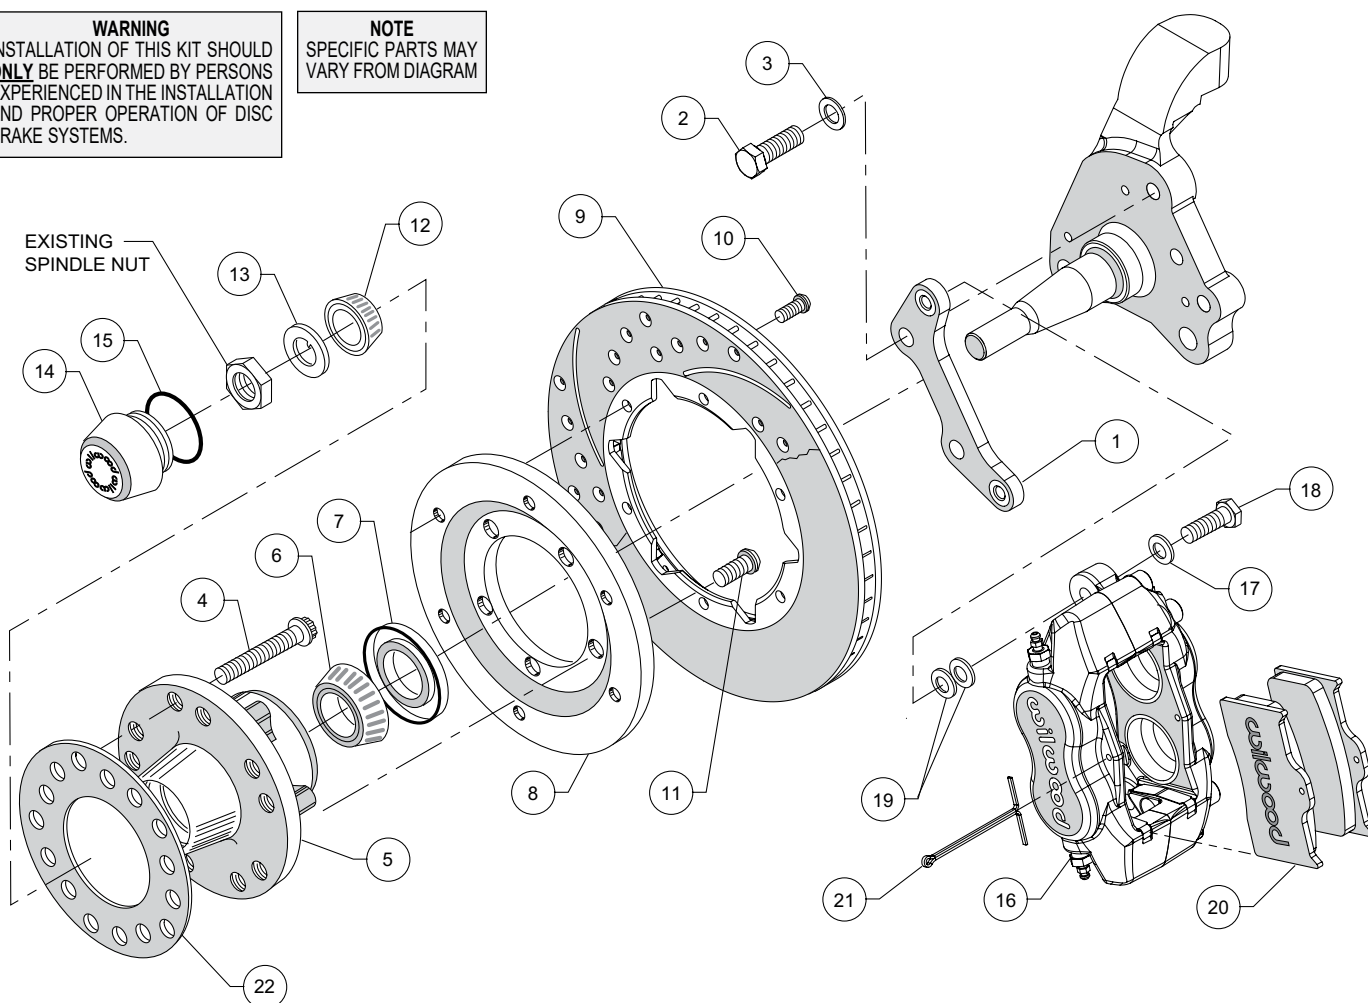
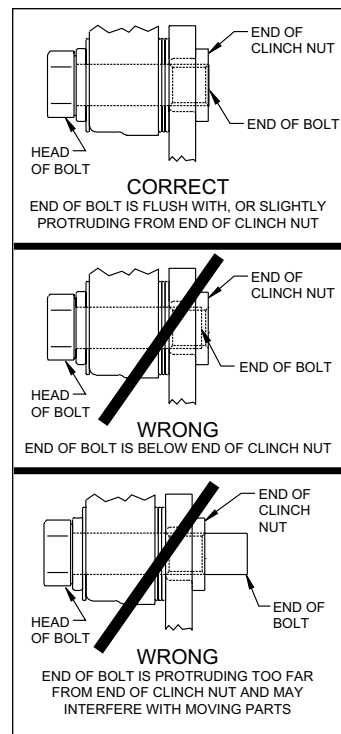

Figure 1. Typical Installation Configuration
Figure 3. Clinch Nut Engagement Diagram
•**NOTE:** Numbers in parenthesis refer to the parts list on the preceding page and Figure 1.
•**CAUTION:** All mounting bolts must fully engage clinch nuts. Be sure to check that all bolts are either flush or protruding through flanged side of clinch nut after shimming, Figure 3.
•Align caliper mounting bracket (1) with the corresponding holes, to the face of the spindle. Attach using bolts (2), and washers (3), as shown in Figure 1 and Photo 1. Temporarily tighten the mounting bolts. Ensure that the flanged heads of the clinch nuts in the bracket are facing outboard, Photo 1. **NOTE:** The bracket must fit squarely against the mounting points on the spindle. Inspect for interference from casting irregularities, machining ridges, burrs, etc. Remove bolts one at a time, apply red *Loctite*® 271 to threads and torque to 77 ft-lbs.
•Install wheel studs (4) into the hub (5), Photo 2. Torque to 77 ft-lb.
•Pack the large inner bearing cone (6) with high temperature disc brake bearing grease (available from your local auto parts store) and install into the backside of the hub (5), Photo 3.
•Install the grease seal (7) by pressing into the backside of the hub (5), flush with the end of the hub, Photo 3.
•Orient the rotor (9) and the rotor adapter (8) as shown in Figure 1 and Photo 4. Attach the rotor to the adapter using bolts (10). Using an alternating sequence, apply red *Loctite*® 271 to the threads, and torque to 25 ft-lb.
•Mount the adapter/rotor assembly (8/9) to the hub (5) using bolts (11), as shown in Figure 1 and Photo 5. Using an alternating sequence, apply red *Loctite*® 271 to the threads, and torque to 45 ft-lb.
- NOTE:** Please reference the caution statement at the beginning of the assembly instructions. Mount the caliper (16) onto the caliper mounting bracket (1) using bolts (18) and washers (17), as shown in Figure 1. Initially place two .035" thick shims (19) on each bolt between the caliper and the bracket, Photo 8. Temporarily tighten the mounting bolts and view the rotor (9) through the top opening of the caliper. The rotor should be centered in the caliper, Photo 9. If not, adjust by adding or subtracting shims between the bracket and the caliper. Always use the same amount of shims on each of the two mounting bolts. **NOTE:** The end of each bolt must be flush with or slightly protruding from the head of the clinch nut, as shown in Figure 3. If necessary place spare shims between washer (17) and caliper mounting ear to achieve the proper clinch nut engagement. Once the caliper alignment and clinch nut engagement are correct, remove the bolts one at a time, apply red Loctite® 271 to bolt threads, and torque to 40 ft-lb.
- Install the disc brake pads (20) into the caliper, with the friction material facing the rotor (9), and secure in place using cotter pin (21), Photo 10.